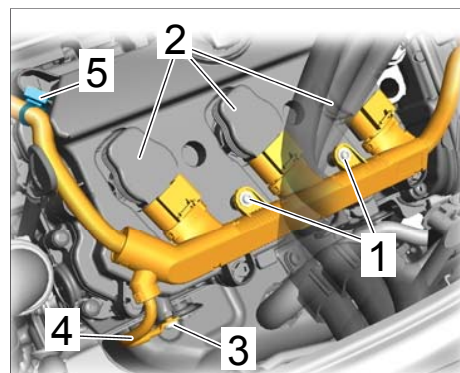

Figure 23
- 5.28 Secure retaining clip $\Rightarrow$ *Figure 23 -item 5-* on the main wire harness at the cylinder head cover.
- 5.29 Secure the ground strap $\Rightarrow$ *Figure 23 -item 4-* at the right on the cylinder head housing with the fastening screw $\Rightarrow$ *Figure 23 -item 3-*. **Tightening torque 10 Nm (7.5 ftlb.)**
- 5.30 Plug in electric plug connections on the ignition coils $\Rightarrow$ *Figure 23 -item 2-* until the connectors engage with an audible click.
- 5.31 Secure cable guide with the fastening screws $\Rightarrow$ *Figure 23 -item 1-*. **Tightening torque 5 Nm (3.5 ftlb.)**